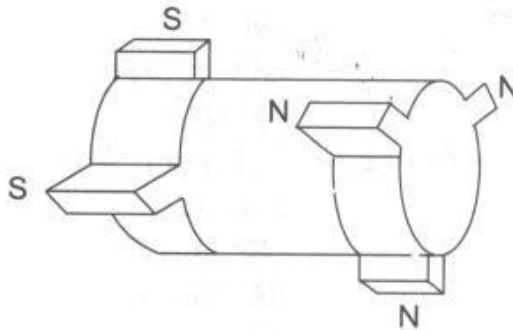

Fig.3 Stepper motor rotor
- Fig.3 shows conceptual positioning of the rotor teeth on the surface of rotor, for a six teeth rotor.